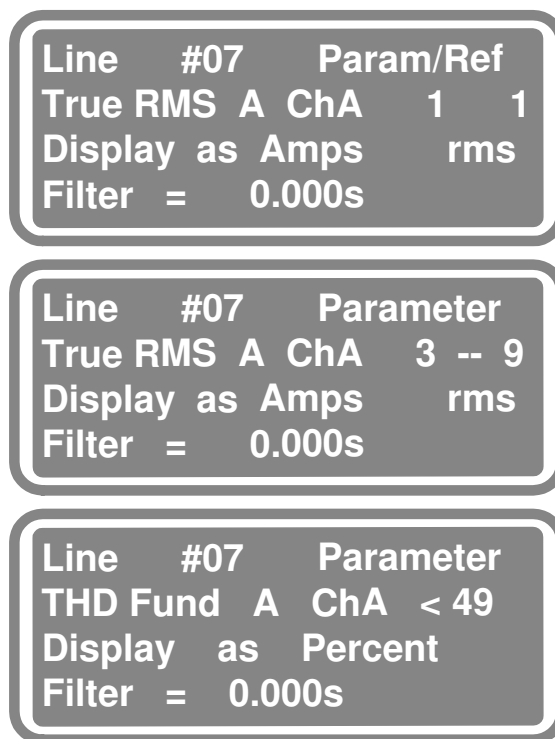

Figure 22. Displaying Harmonics as Percent
2. On Line 3 select the default units for harmonic levels as “Ratio” of the selected reference. See Figure 22.